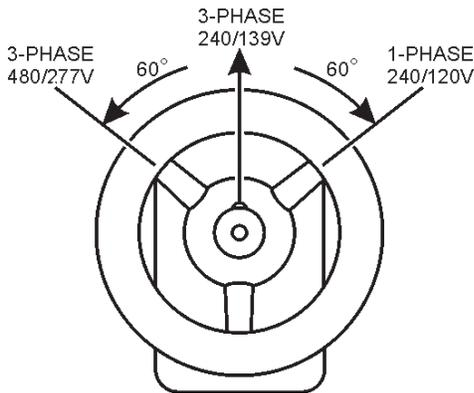

Figure 12. Voltage Selector Switch Wheel
A wide range of voltages are available to supply voltage for many different applications. Voltages are selected by placing the voltage selector wheel switch (Figure 12) in the desired voltage position. To obtain some of the voltages as listed in Table 7 (see below) will require a fine adjustment using the **voltage regulator (VR) control knob** located on the control panel.
The **voltage selector wheel switch** (Figure 12) is located on the generator control panel.